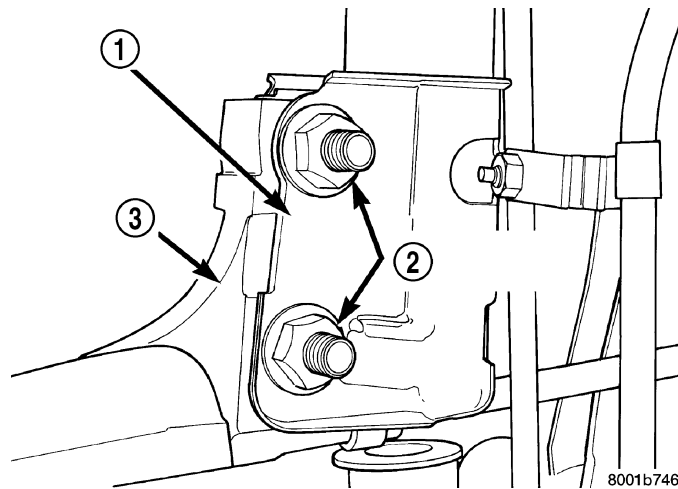

Fig. 3 Strut To Steering Knuckle Attaching Bolts
- 10. Remove the steering knuckle-to-strut attachment bolts from the steering knuckle (Fig. 3).